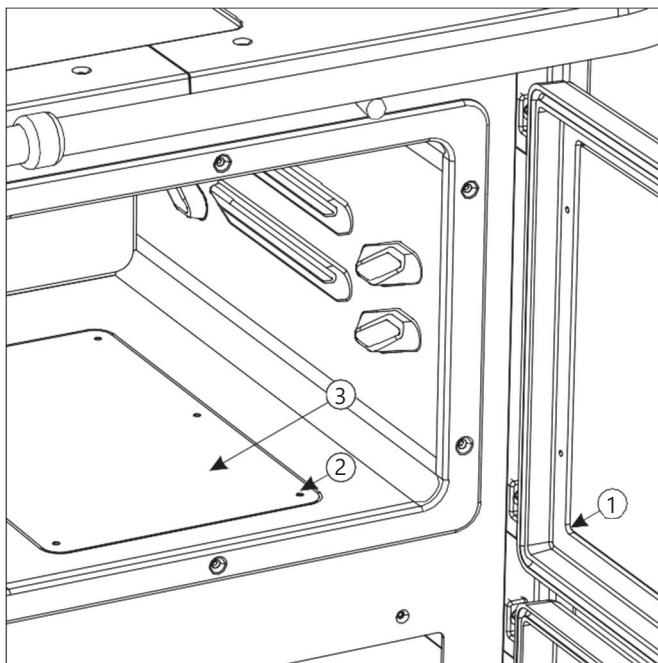

Figure 7
(Figure 7) - open the oven door (1), unscrew the 6 screws (2) on the bottom of the oven and remove the oven bottom lid (3). Use the auxiliary equipment to remove the accumulated soot from the cooker bottom and under the oven bottom. Return the oven bottom lid into the original position after cleaning and fasten it to the oven bottom with screws.